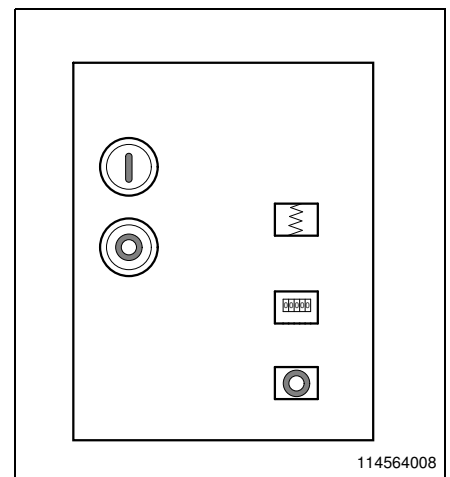

Fig. 19
- The circuit-breaker switches OFF. The position indicator shows "0" (Fig. 19).